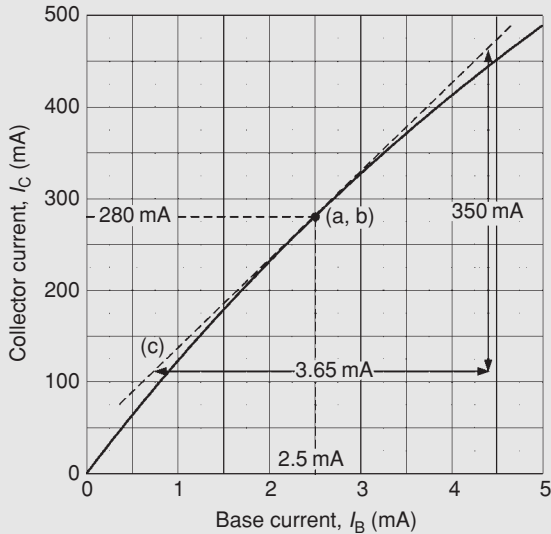

Figure 12.15
Problem 5. Figure 12.15 shows the transfer characteristic for an n-p-n silicon transistor. When the base current is 2.5 mA, determine (a) the value of collector current, (b) the static value of current gain, and (c) the dynamic value of current gain.
- (a) From Fig. 12.15, when $I_B = 2.5$ mA, **collector current, $I_C = 280$ mA** (see point (a, b) on the graph)
- (c) In Fig. 12.15, the tangent through the point (a, b) is shown by the broken straight line (c). Hence,